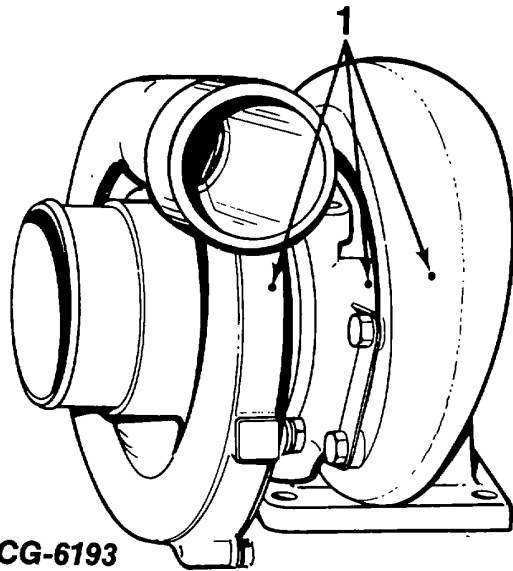

Figure 8. -- Center and Turbine Housing Aligned
7. When alignment has been accomplished scribe a mark on the center and turbine housings for reference as shown in Fig. 8.